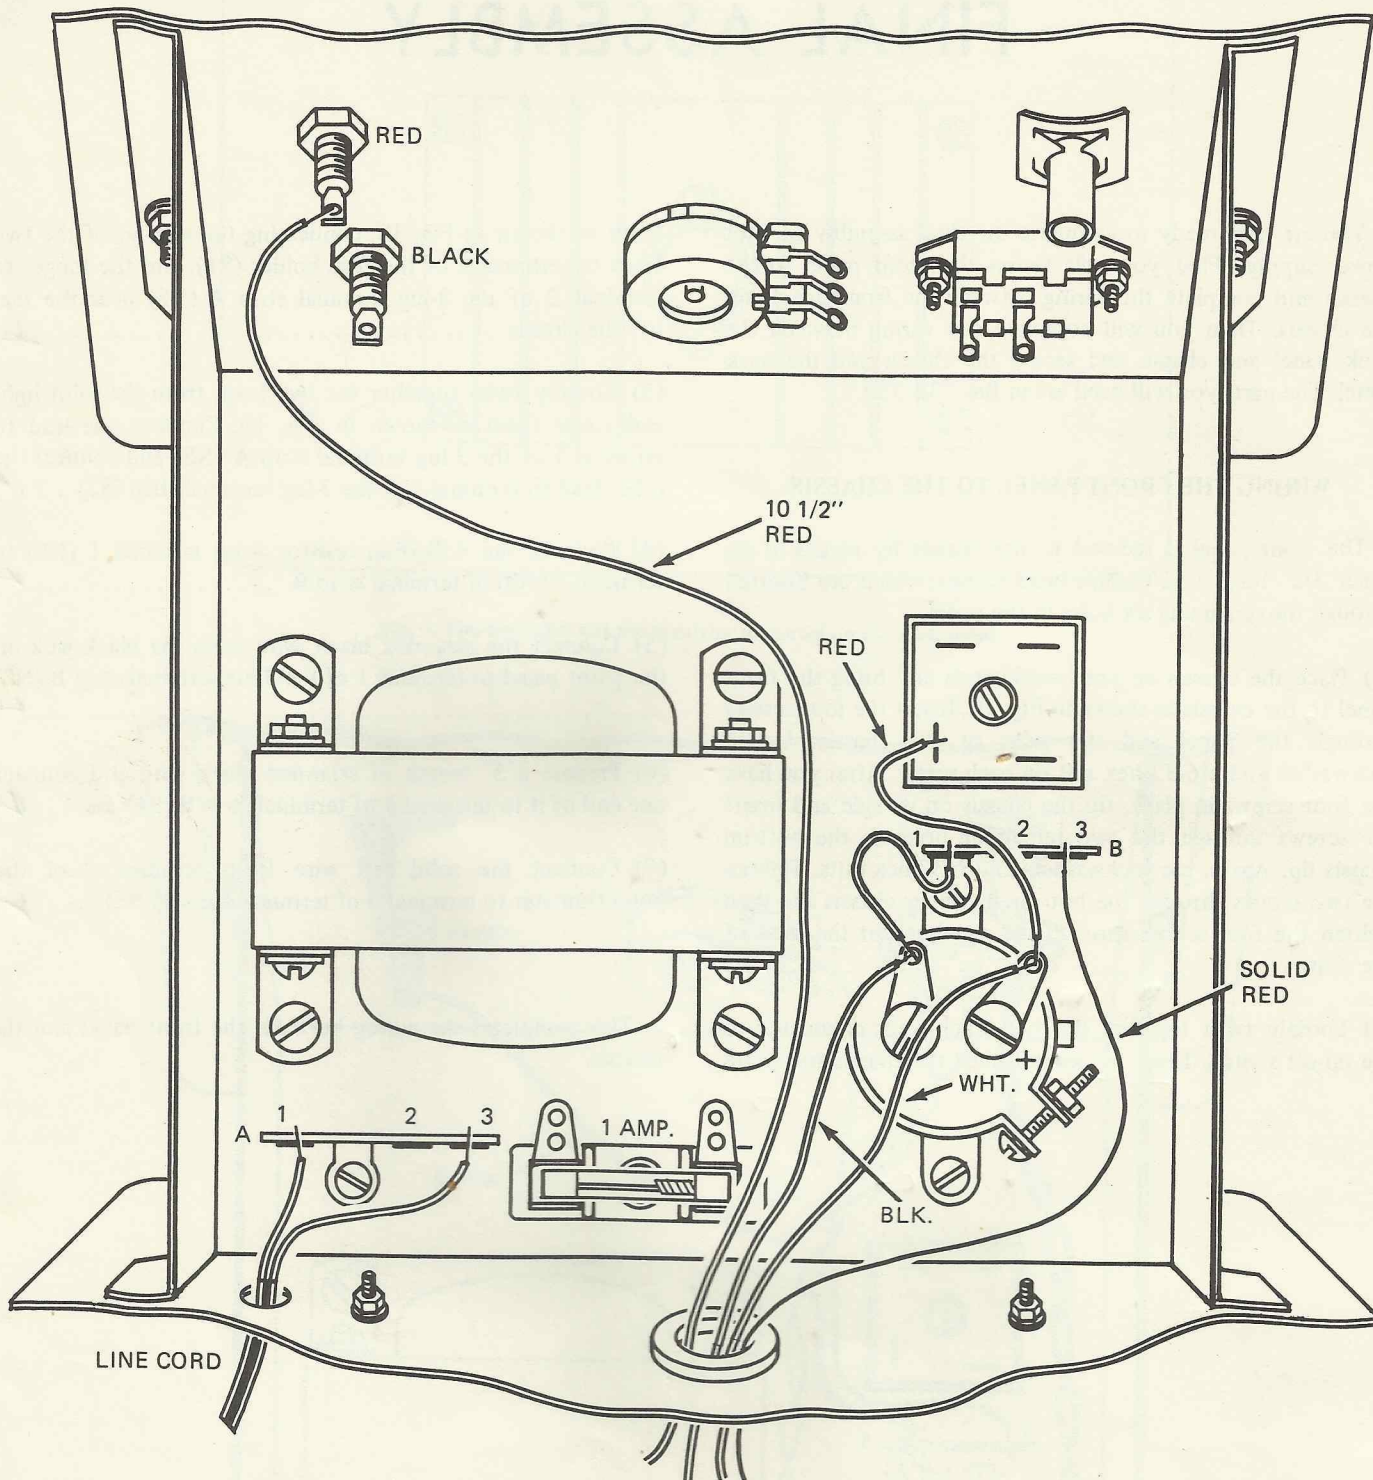

Fig. 11. Wiring the back panel to the chassis.
(1) Place the power supply chassis on your workbench with the rear of the chassis toward you. With the rear of the back panel facing you (the side on which you have the heat sink mounted), you will find a 3/8" hole to the left of the heat sink. Slip the line cord through this hole. Connect one lead from the line cord to terminal 1 (S2) of the 3-lug terminal strip A, and the other lead to terminal 3 (S2) as shown in Fig. 11 (✓)
(2) Connect the solid red wire from the voltage regulator to terminal 3 (S3) of the 3-lug terminal strip B (✓)